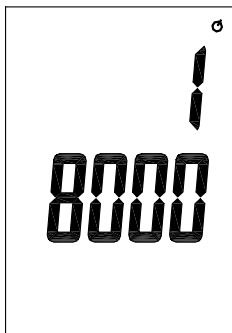

Fig. 7 Screen shows 18,000 readings left in memory.
1. Press **Power on/off** button to turn the unit on. The first value immediately shown is the number of data logging sample points remaining. (Fig. 7)
4. **Note:** A maximum of 18,000 sample points is available (Fig. 7). As you log temperature readings, this value will be lower each time you turn the meter. When the memory is full (with 0 sample points remaining), the first value shown will be "FULL" rather than a number. Or if you try to record, the REC icon will flash five times and disappear. At this point, you are no longer able to record until the memory is cleared. (See "Changing Setup Options", "Clear Memory Operation" on pages 11–12.)